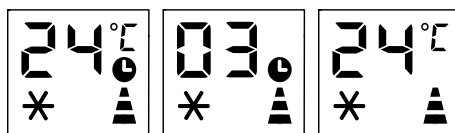

Fig. 5
- When the appliance is running, press the ⏰ button, the screen will display hours, and several symbols are flash together. (fig 5)